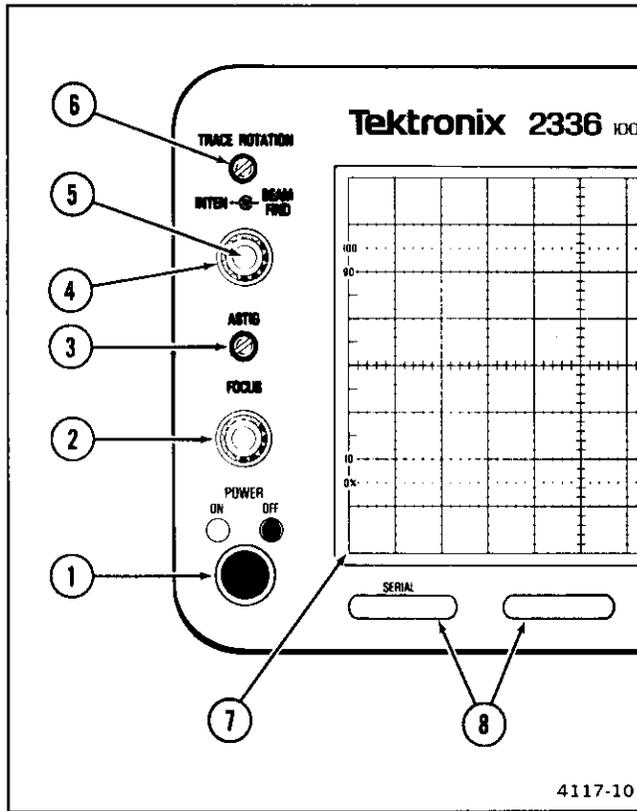
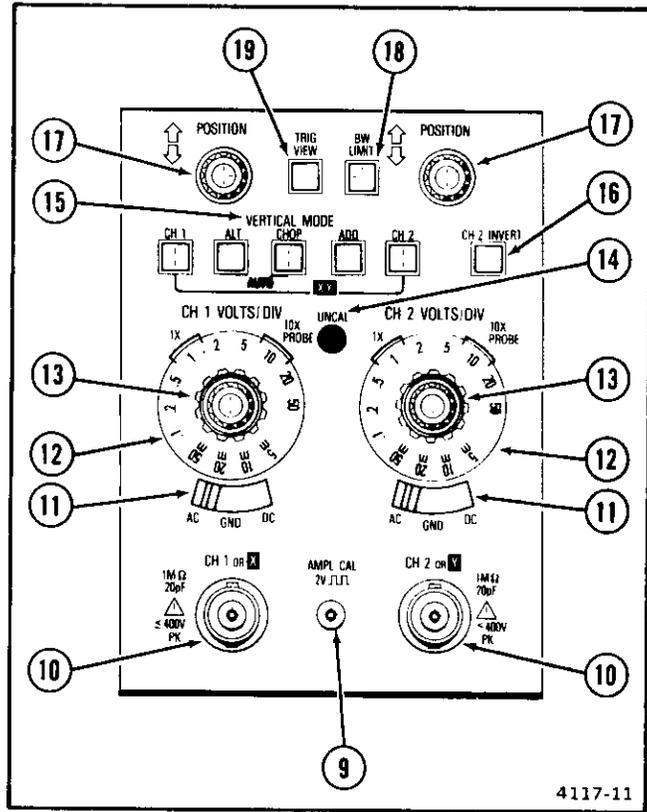

Figure 3. Power and display controls and indicators.
Figure 4. Vertical controls, connectors, and indicators and calibrator output.
Refer to Figure 3 for location of items 1 through 8.
- ① **POWER Switch**—Turns instrument power on and off. Press in for ON; press again for OFF.
- ② **FOCUS Control**—Adjusts for optimum display definition.
- ③ **ASTIG Control**—Screwdriver control used in conjunction with the FOCUS control to obtain a well-defined display over the entire graticule area. It does not require readjustment during normal operation of the instrument.
- ④ **INTEN Control**—Determines the brightness of the crt display (has no effect when BEAM FIND switch is pressed in).
- ⑤ **BEAM FIND Switch**—When held in, compresses the display to within the graticule area and provides a visible viewing intensity to aid in locating off-screen displays.
- ⑥ **TRACE ROTATION Control**—Screwdriver control used to align the crt trace with the horizontal graticule lines.
- ⑦ **Internal Graticule**—Eliminates parallax viewing error between the trace and graticule lines. Rise-time amplitude measurement points are indicated at the left edge of the graticule.
- ⑧ **SERIAL and Mod Slots**—The SERIAL slot is imprinted with the instrument's serial number. The Mod slot contains the option number that has been installed in the instrument.
Refer to Figure 4 for location of items 9 through 19.